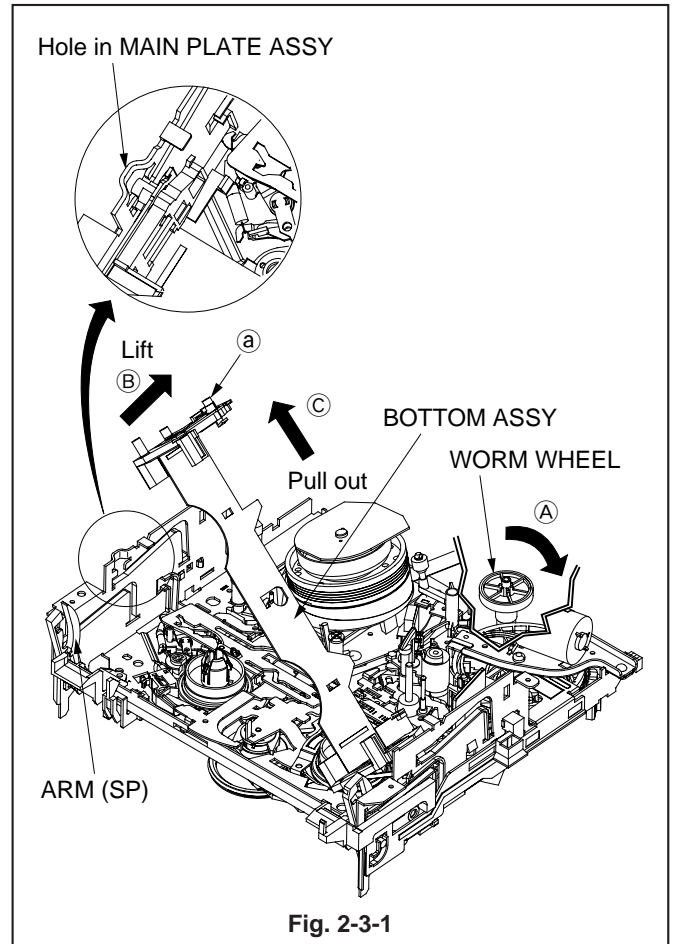

Fig. 2-3-1
1. Move the WORM WHEEL in Fig. 2-3-1 in the direction shown by arrow (A). And match the boss (a) of the BOTTOM ASSY with the hole in the MAIN PLATE ASSY.
2. Lift the BOTTOM ASSY in Fig. 2-3-1 in the direction shown by arrow (B) and remove in the direction shown by arrow (C).
3. Rotate the WORM WHEEL shown in Fig. 2-3-1 so that the ARM (SP) stands vertically.
5. Insert the boss (d) of the BOTTOM ASSY to the upper groove through the hole in the MAIN PLATE ASSY shown in Fig. 2-3-1 and the boss (e) to the lower groove through the slot in the ARM (SP).